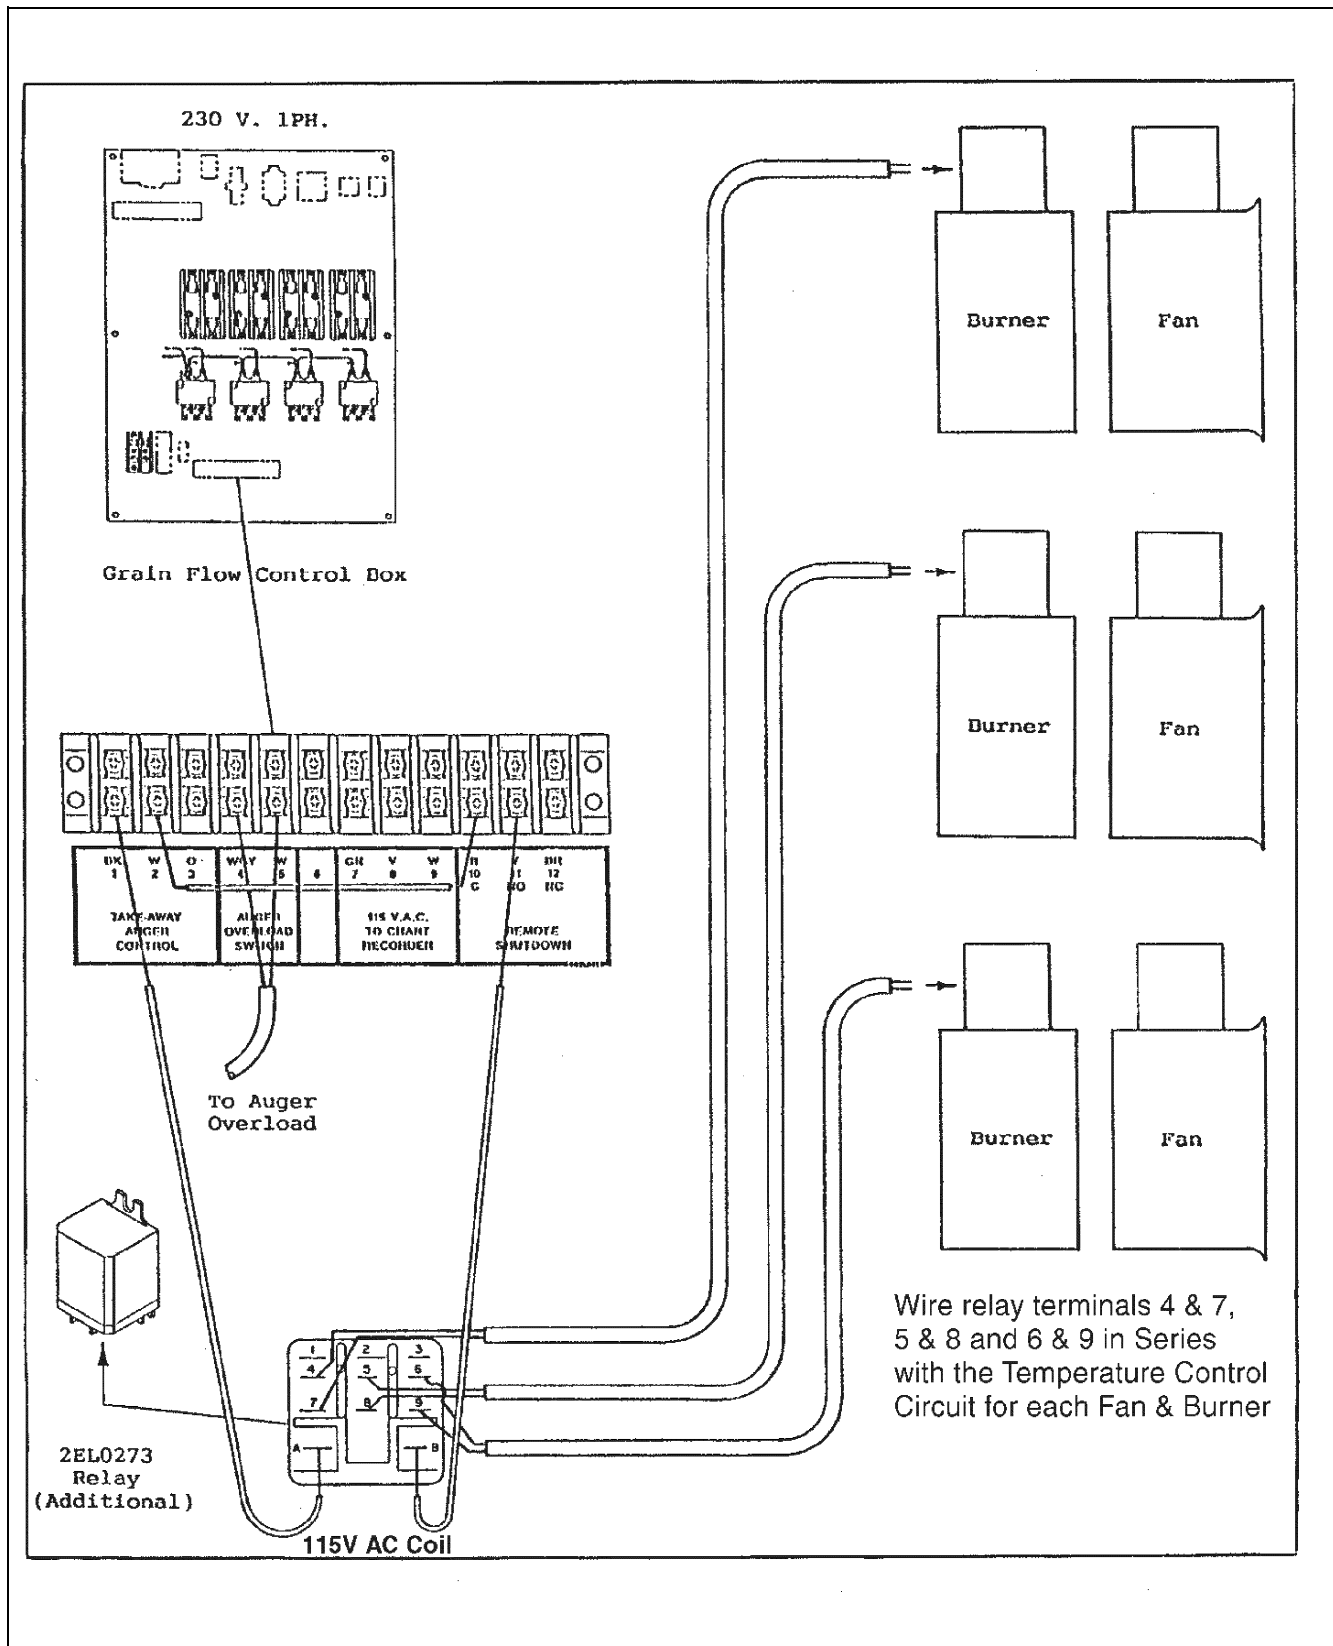

Figure 11B
4. Connect relay terminals #4 and #7, #5 and #8 and #6 and #9 in series with each of the fan and burner control circuits. *(See Figure 11B on Page 99.)*